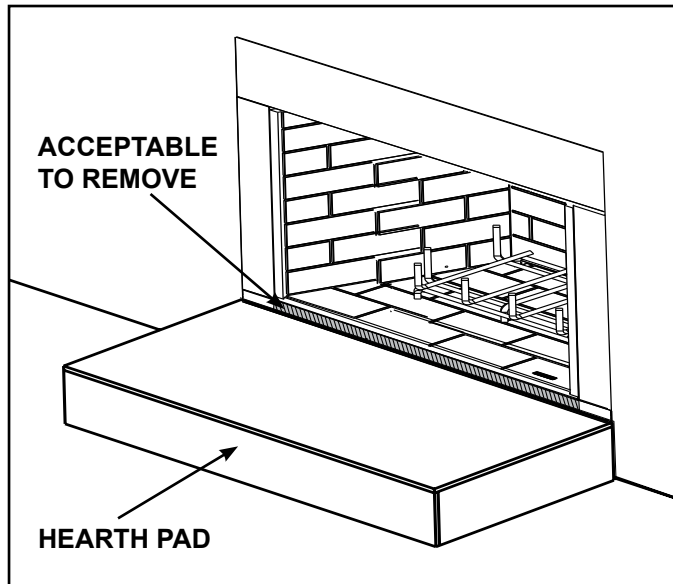

Figure 3.7 Solid Fuel Firebox
- A metal lip protruding above the hearth pad of the solid fuel firebox may be removed. See Figure 3.7.